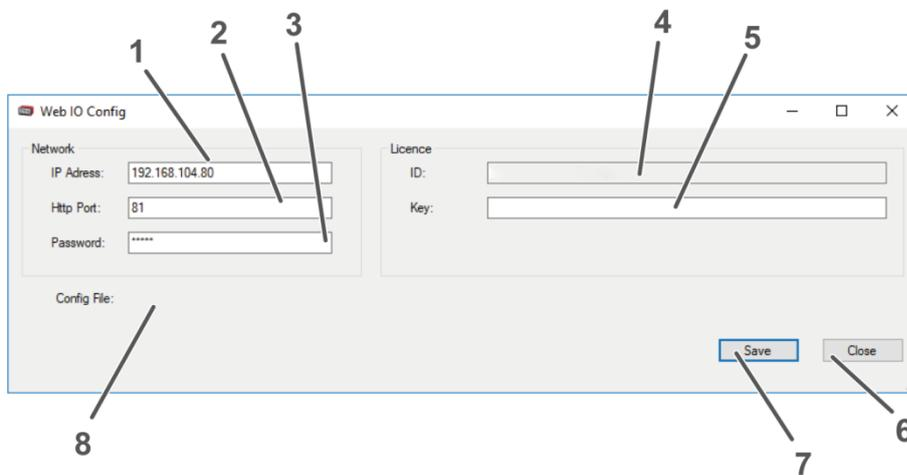

Figure 34: Web IO Config
- Make sure that the value set in field HTTP-Port on the W&T homepage is the same as the value in the Web IO Config window (Figure 34, Page 39, Pos. 3).